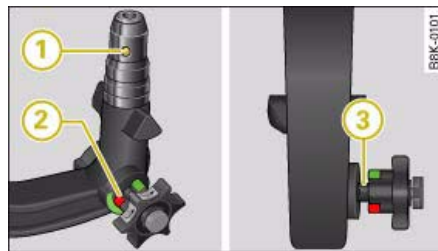

Fig. 209 Removable towing bracket: Ball joint
- Check that the red marking (2) => fig. 209 on the knob is inside the green zone on the ball joint.
- Check that the locking ball (1) is inside the hole in the shaft section of the ball joint.
- Check that the knob protrudes visibly from the ball joint, so that there is a clear gap (3) between the knob and the ball joint.